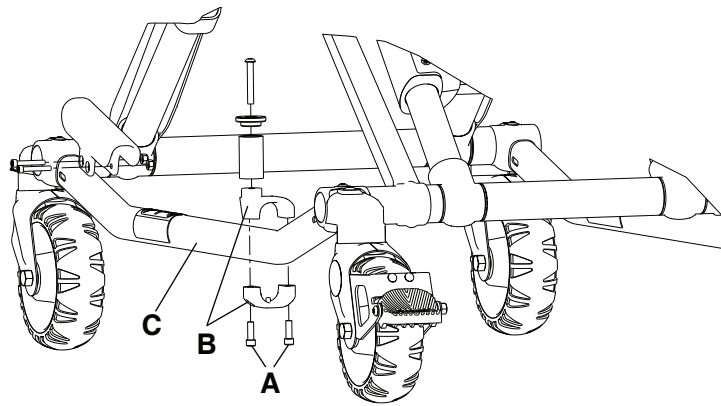

Figure 13 – Cot retaining post
1. Using a T30 Torx driver, remove the two socket head cap screws (A) that secure the brackets (B) to the base frame (C) (Figure 13). Save the screws.